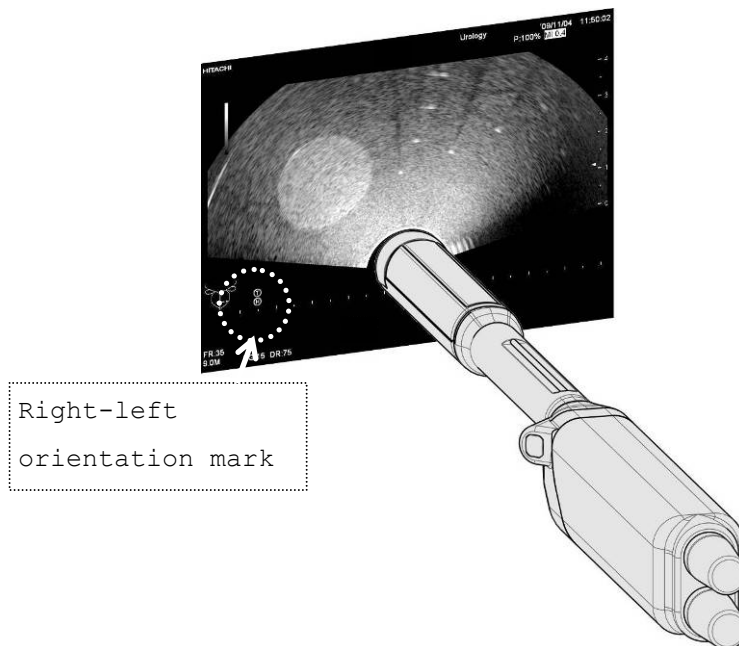
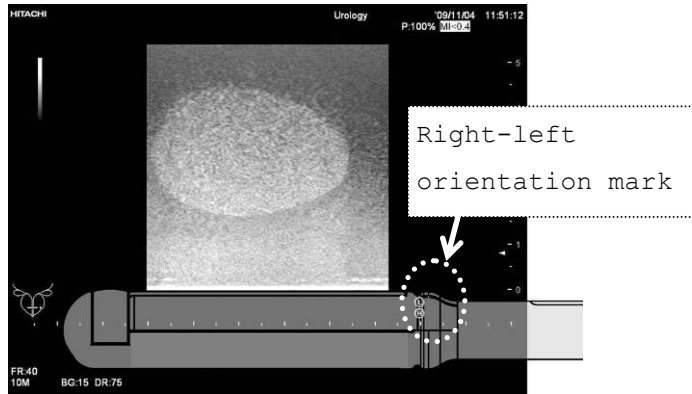

Fig.2 The relationship between the direction of the probe and the Right-left Orientation Mark in Convex US image
Fig.3 The relationship between the direction of the probe and the Right-left Orientation Mark in Linear US image
- 4) The relationship between the direction of the probe and the right-left orientation mark on the image is shown in Fig.2 and Fig.3.